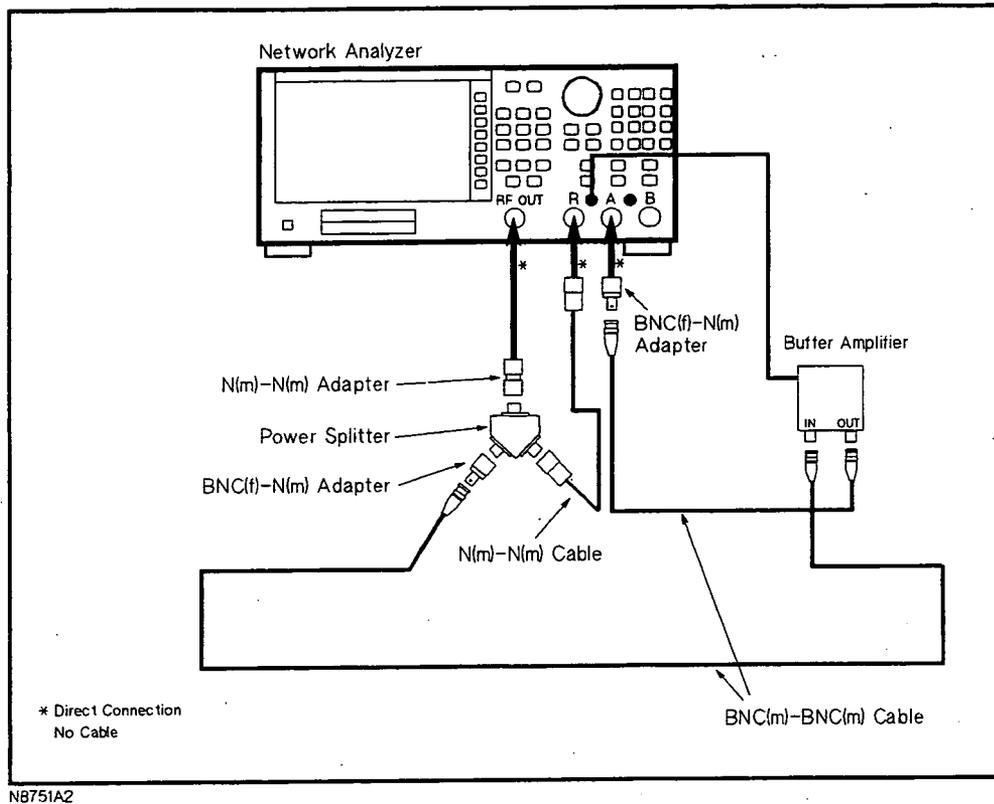

**Figure 1-5. Buffer Amplifier Performance Check Setup 1**
1. Connect the test equipment as shown in Figure 1-5.